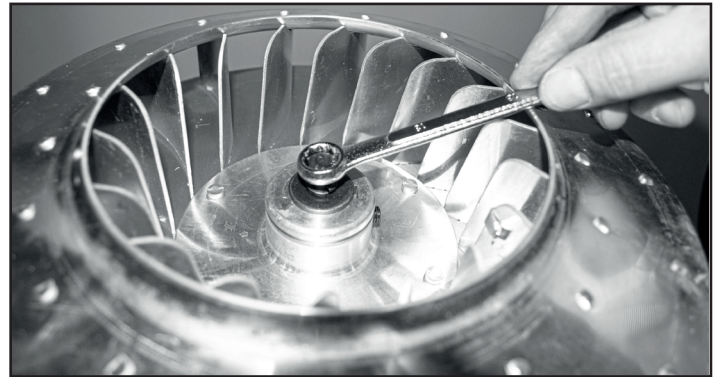

FIG. 11
3. Install the M8X25 Hex Head Bolt, 8mm Spring Washer and 8mm Big Washer to the end of the motor shaft using the 13mm wrench. Fig. 11.